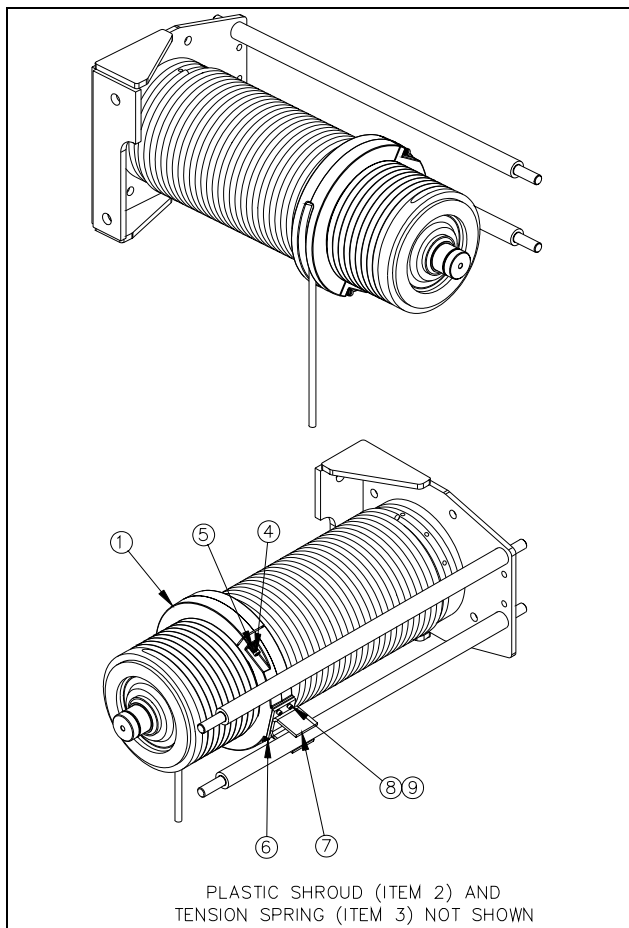

Figure 5-3. Rope Guide Assembly.
- Periodically re-grease with **MPG** (Paragraph 4-7) using the grease fitting provided (Figure 5-3, Item 6).
- b) Disassembly. Refer to Figure 5-3. For further assistance in locating components refer to the parts list in Section X.
- (1) Remove socket head cap screws and lock washers (Items 8 and 9). Take off mounting clip (Item 7).
- (2) Remove shoulder bolts (Item 4) and compression springs (Item 5). The two halves of the rope guide body (Item 1) can now be pulled off the drum separately. When reassembling be sure that the half with the rope slot is on the top half of the drum.
- (3) Re-install rope guide over rope in rope drum grooves as shown in Figure 5-3. and outlined in Section V, Paragraph 5-6. Continue lubricating as rope is spooled onto the drum until about 28’-0” remain unwound.